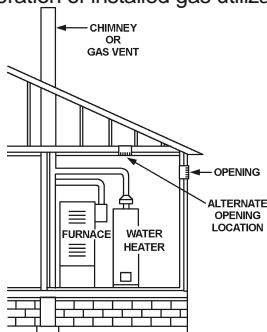

FIGURE 8A.
5. Alternatively a single permanent opening may be used when communicating directly with the outdoors, or with spaces that freely communicate with the outdoors. The opening shall have a minimum free area of 1 square inch per 3,000 BTU per hour (8.3 cm2/kW) of total input rating of all equipment in enclosure. See Figure 8A.